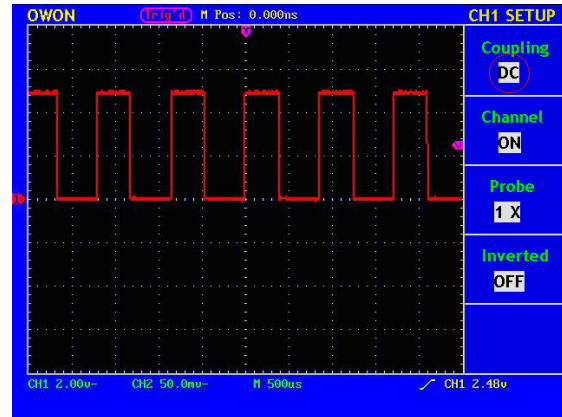

Fig.16 DC Coupling
- Press **F1** again to set “DC” mode, both AC and DC components get passed. See Fig.16.